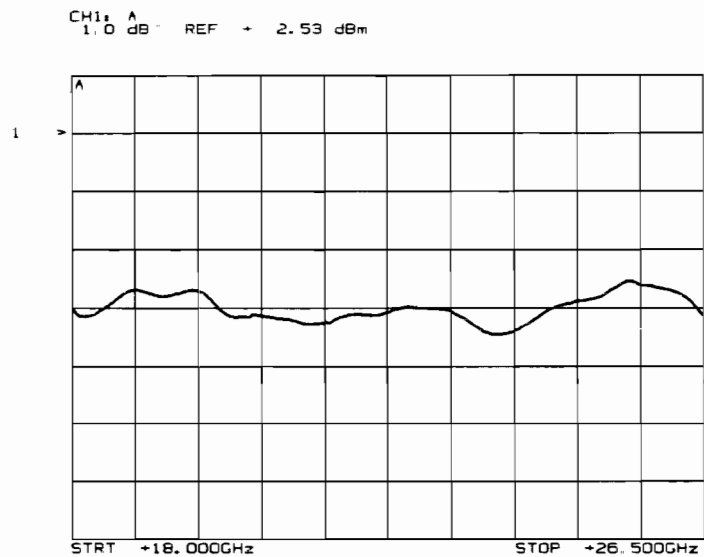

Figure 5-38. Identifying Breakpoint
8. Identify the breakpoint, refer to Figure 5-38. Adjust A5R34 (BP1) so that the adjustment point lies on the breakpoint (as closely as possible).